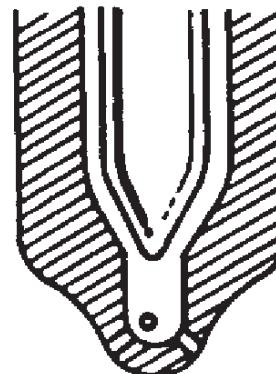

Figure 6-21
4. Check the nozzle body seat and needle tip for damage and corrosion. If damage or corrosion is present, replace the nozzle assembly (**Figure 6-21**).